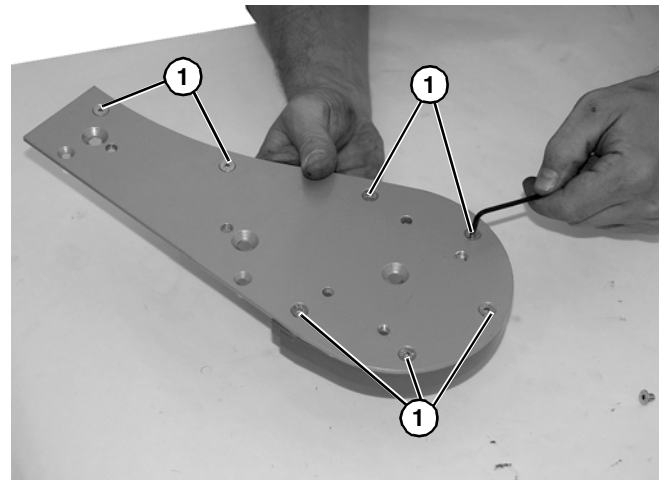

**Figure 74**
6. Remove upper retaining guide (**Figure 74, item 1**) from drive plate (**Figure 74, item 2**).